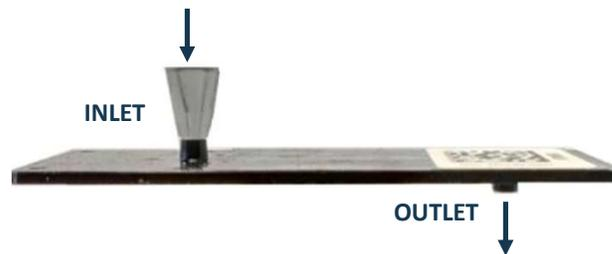

Fig. 4 | ZellSafe™ chip with pipette adapter
7. Place the pipetting adapter on the inlet of the chip (Fig. 4) and rinse the chip with **2x 1 ml ZELLKRAFTWERK sterile storage buffer**. Sterile storage buffer should always be used to avoid contamination.